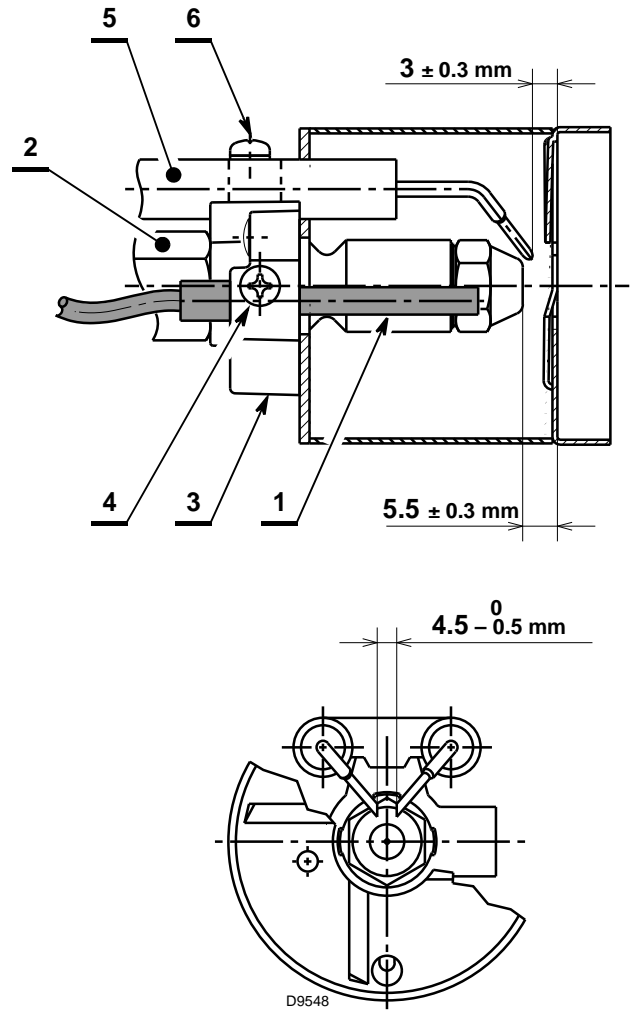

Fig. 17
- lean the diffuser disc-holder assembly 3) (Fig. 17) on the nozzle-holder 2) and lock it by screw 4).
- insert optical fibre 1) (Fig. 17) in the diffuser disc support assembly 3), making sure it is pushed in all the way.